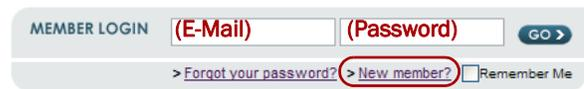

Figure 1. Login and Sign-up Links
**NOTE:** If you are not yet a member, click the *New member?* link (Figure 1) and follow the instructions. It's free!